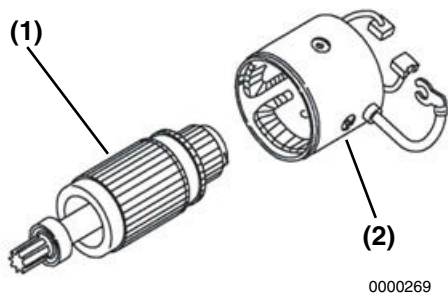

Figure 11-30
7. Carefully install the armature assembly **(Figure 11-30, (1))** into the field coil assembly **(Figure 11-30, (2))**.